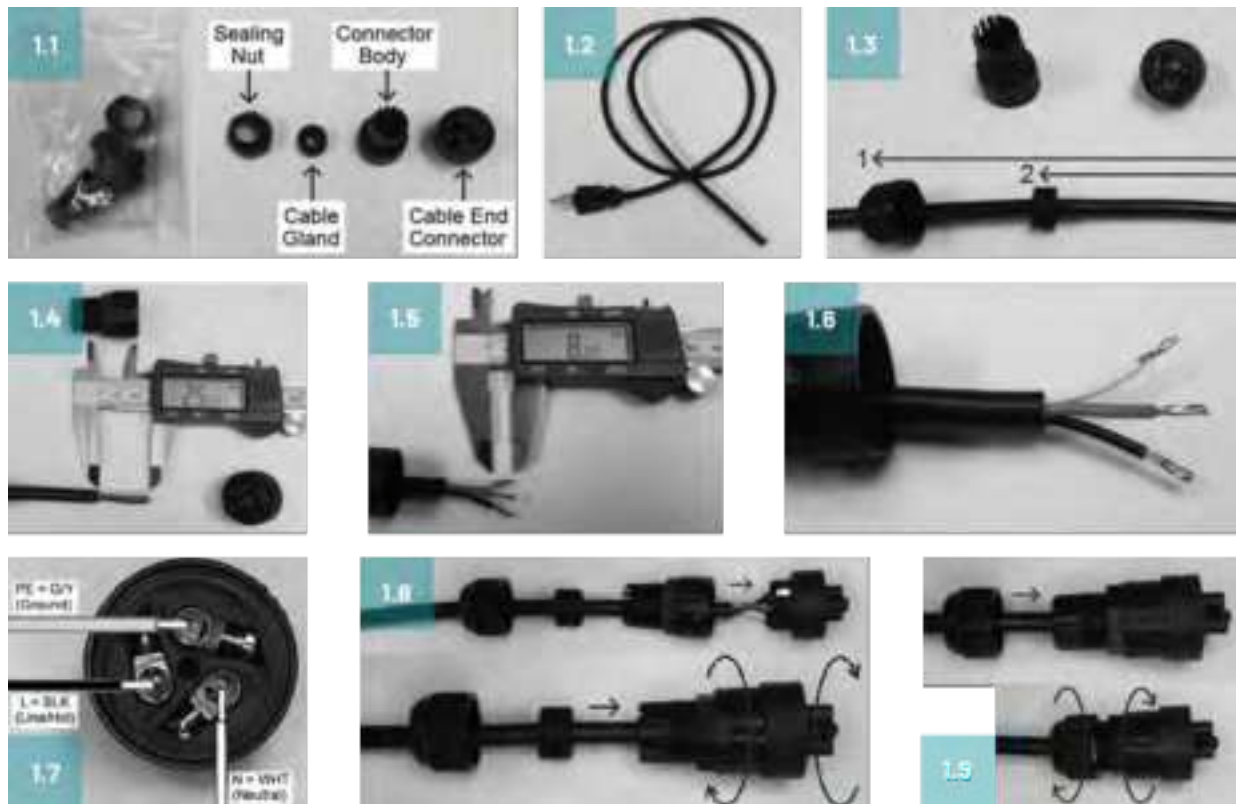

Figure 5.4-2: AC power cord assembly
Step 1 (see Figure 5.4-2): AC power cord assembly. Locate the bag with the 3-pin female cable end (1.1). Prepare the line cord or AC mains hardware (1.2). Slide the sealing nut 1st and the cable gland 2nd over the cable (1.3). If there is an outer jacket of the cord, strip approximately 25mm (+/- 1mm) from the end (1.4). Install the connector body and strip each wire approximately 8mm (+/- 1mm) from the end (1.5). It is recommended (if possible) to prevent fraying of wires by tinning each wire with solder (1.6). Insert wires into the proper location in the cable end (1.7). Screw the cable end into the connector body and push the cable into the connector body (1.8). Screw the sealing nut into the connector body (1.9).